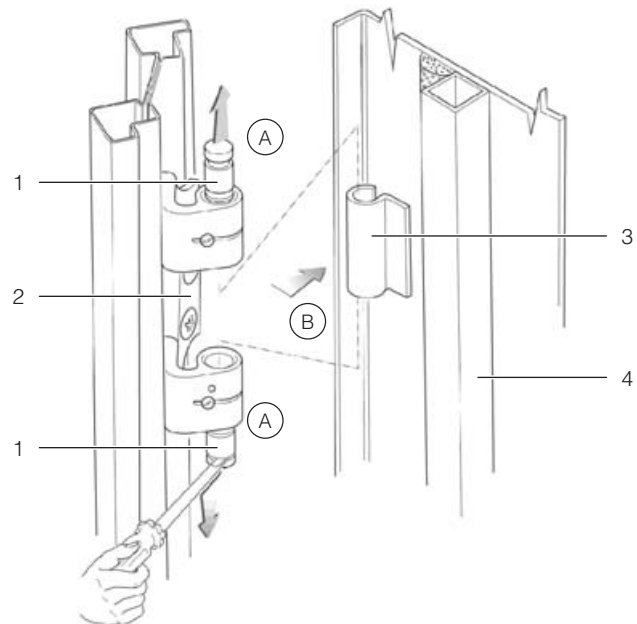

Fig. 16: Removing a door hinge
- Loosen the hinge bolts from the four door hinges by raising them with an appropriate tool (e.g. screwdriver). Pull the bolts out of the hinge pin holding fixture as far as they will go (see fig. 16, step A). Begin with the lowest door hinge.
- Remove the server enclosure door (fig. 16, step B).